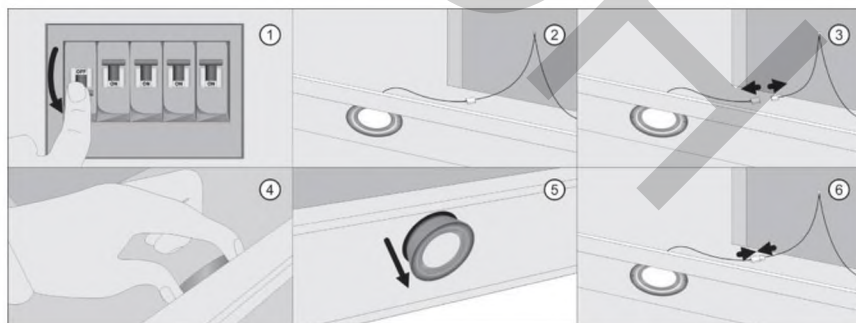

Fig. 15 Light lamps changing
Power off the device before lamps changing. (Fig. 15. 1)
1. Remove aluminum fat filter (Fig. 15. 2)
power supply cable by pressing the latch (Fig. 15. 3)
3. Find two lamp fixing plates inside the cooker hood, press it with fingers and push the lamp down (Fig. 15. 4, 5)
4. Install new lamp of the same type and specifications (12 V, 1.5 W), and consequently connect it to power. (Fig. 15. 6)